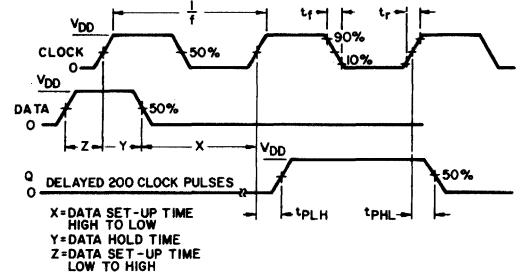

Fig. 3 – Timing diagram—single-phase clock.
Single-Phase-Clock Operation; Clock Mode (CM) = Low; $3\text{ V} \leq V_{DD} \leq 10\text{ V}$ (See Figure 3)